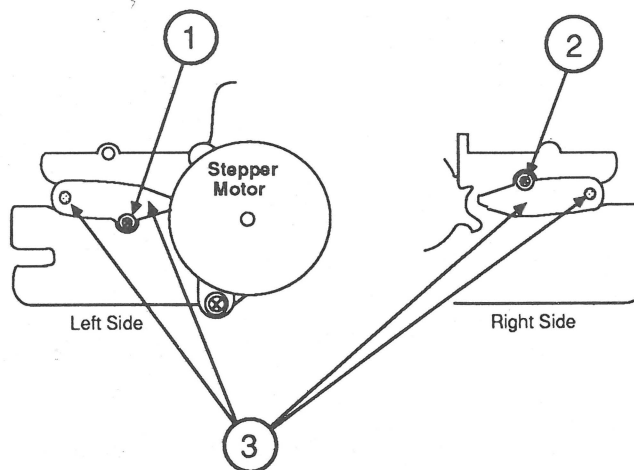

FIGURE 49
11. Turn the printer so the stepper motor is facing you and remove the screw (Figure 49, #1) that holds the tractor assembly to the metal frame.
12. Turn the printer to the right side and remove the screw (Figure 49, #2) that holds the tractor assembly to the frame.
13. Turn the printer so the rear is facing you. Hold the round rod and plastic end pieces (Figures 49, #3) of the tractor assembly and carefully pull straight toward you until the tractor assembly is free from the frame.
1. Hold the plastic end pieces (Figures 49, #3) on each end of the tractor assembly and slide the tractor assembly into the frame slot.